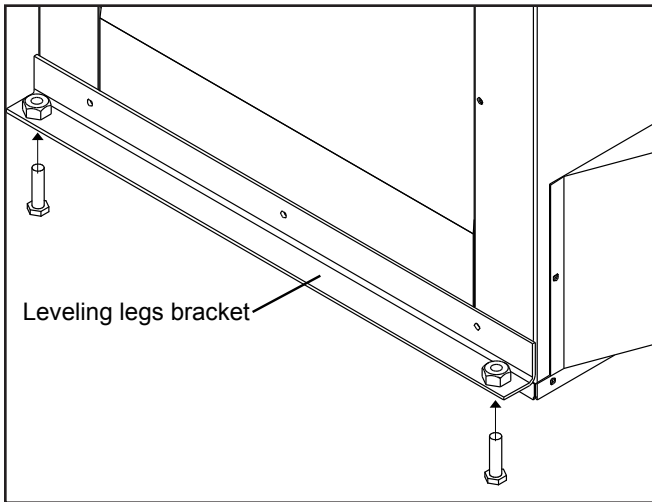

Figure 15: Installation of Leveling Legs.
6. Install the leveling legs. Thread the two (2) 5" (13 cm) bolts and locknut up into the captive nuts at each end of the leveling leg bracket (refer to Figure 15).